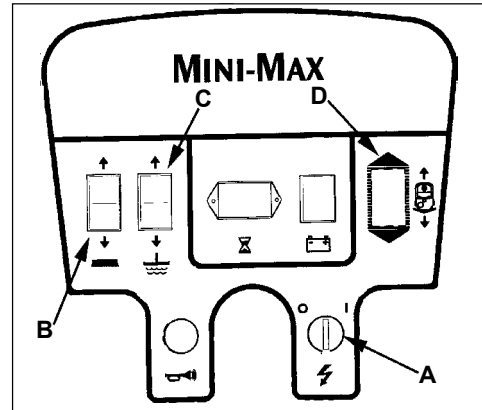

Figure 35
2. Turn the key switch to the "ON" position (see figure 35, item A).
3. Raise the brush to the highest position (see figure 35, item B).
4. Raise the squeegee (see figure 35, item C).
6. Place the forward/neutral/reverse switch to the forward position (see figure 35, item D).
10. To travel in reverse, place the forward/neutral/reverse switch in the reverse position (see figure 35, Item D).